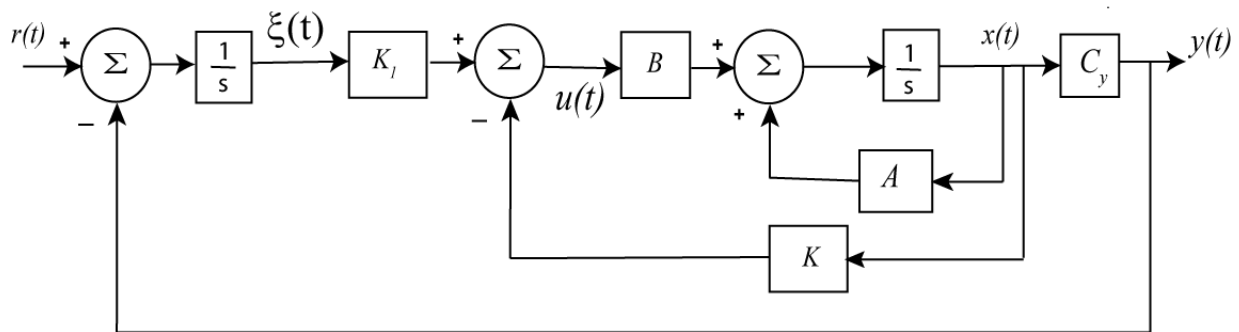

Figure 1: Integral control block diagram
- 6) Modify **sv1_integral.mdl** to implement state variable feedback using integral control. The basic integral control scheme is shown below in Figure 1. This includes adding a summing block after the step input that also subtracts the output y . It also involves adding an integrator after the first summing block and multiplying by the integrator gain, K_I . The output of the integrator is the input to the original summing block and the rest of the model is the same as in lab 9. Note that both integrators should have initial conditions of zero set in the model or in the m-file.